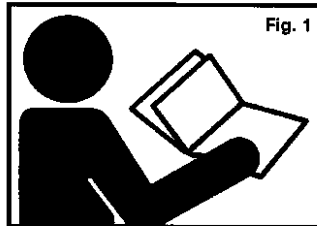

Fig. 1
1. Read and understand tool labels and manual. Failure to follow warnings could result in **DEATH** or **SERIOUS INJURY**. Fig. 1.